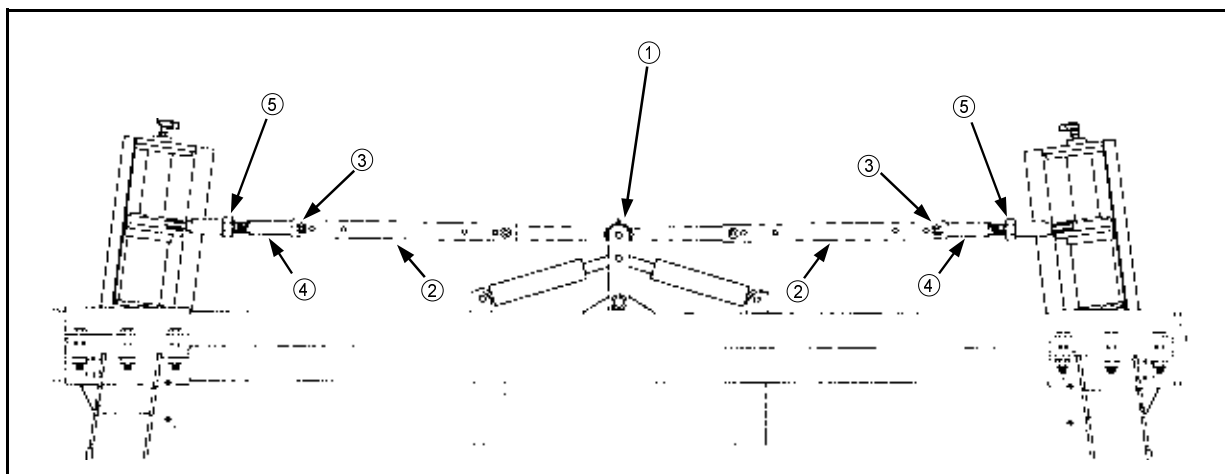

FIG 8.67
2. Turn steering wheel until center steering pivot (fig. 8.67, item 1) is vertical.
3. Loosen tie rod jam nuts (fig. 8.67, item 5).
4. Remove tie rod bolts (fig. 8.67, item 3) on outer end of tie rod tube (fig. 8.67, item 2).
6. Turn inner tie rod (fig. 8.67, item 4) in or out until the bolt hole lines up with the bolt hole in the tie rod tube. Then turn one more full turn **OUT**.